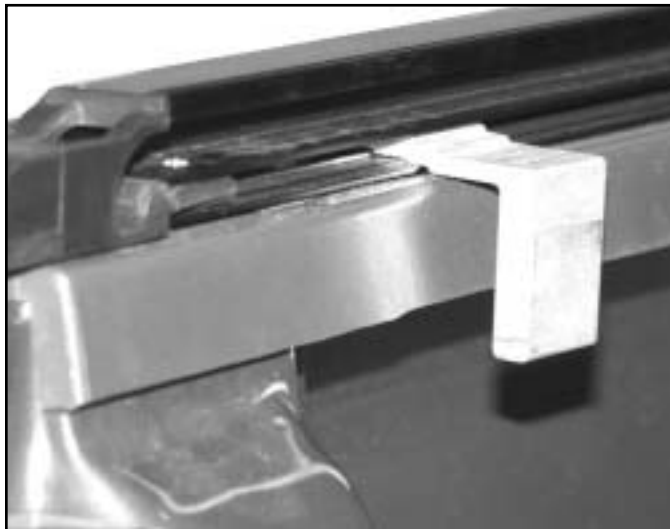

Figure S-93
4. Remove the six (6) lower clamp jaws. See figure S-93.
15. Position the upper clamp arms in the position as they were before being removed. Refer back to figure S-93.